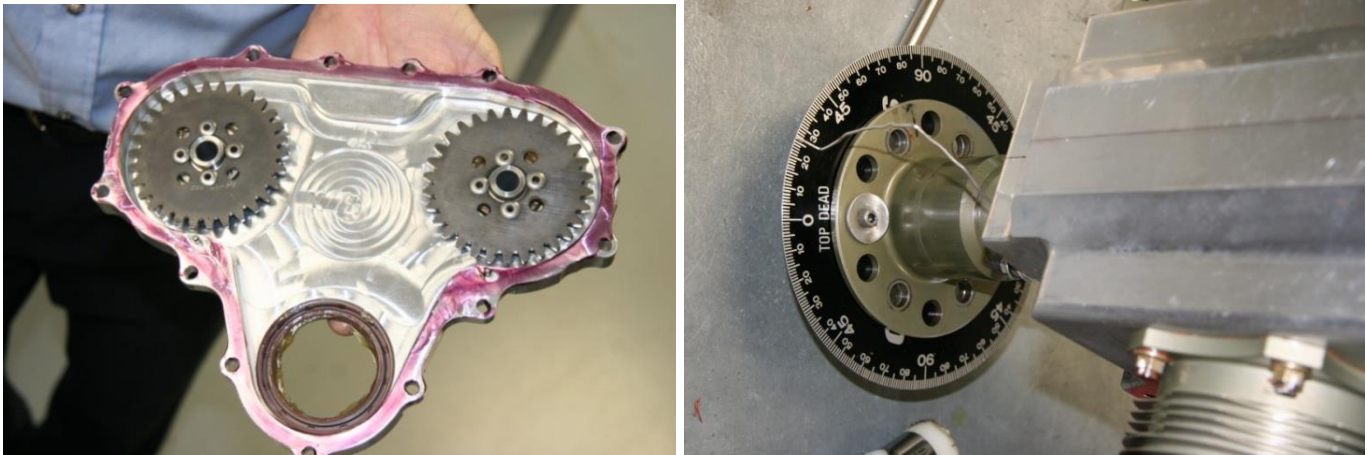

Figure 178 – Fitting Distributor Case & Setting Timing
- Apply Loctite 515 sealant to the gear case as shown in Figure 178.